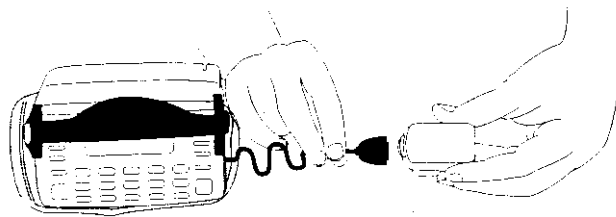

Figure 5-9. Connecting Cable from WWC 1000 to Ring Scanner
3. Plug the cable connector from the WWC 1000 in the interface port on the back of the ring scanner, with the arrow on the top of the cable facing up (Figure 5-9).